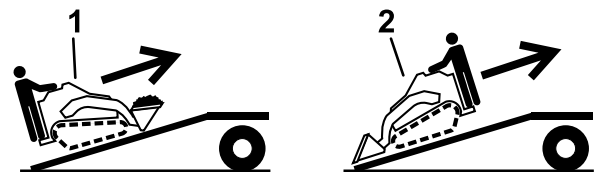

Figure 35
1. Lower the ramp, ensuring that the angle between the ramp and the ground does not exceed 15 degrees (Figure 35).